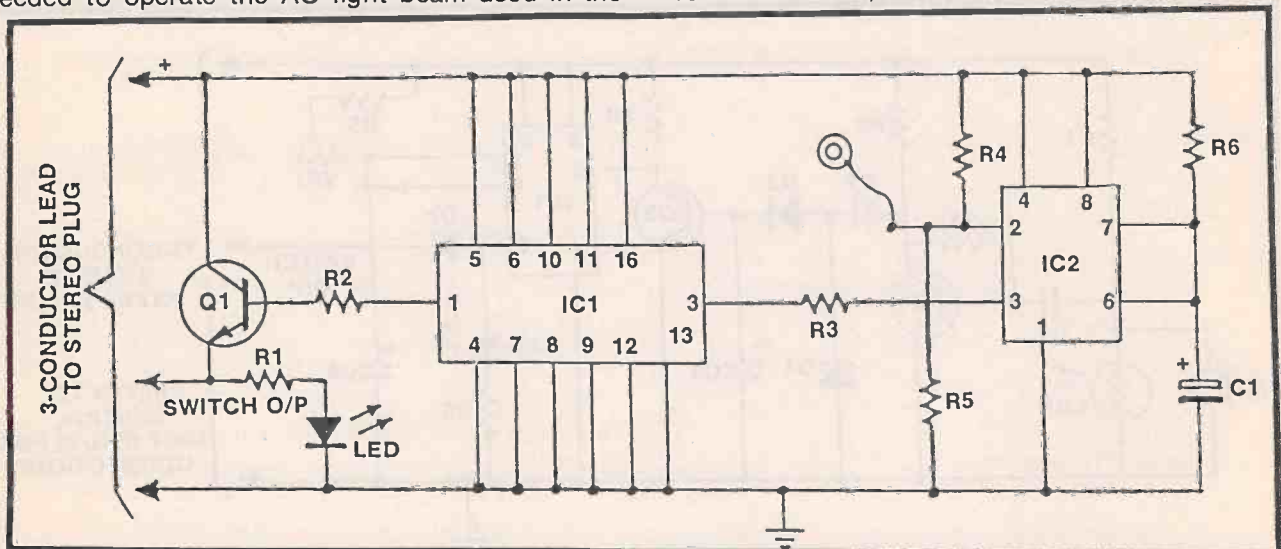
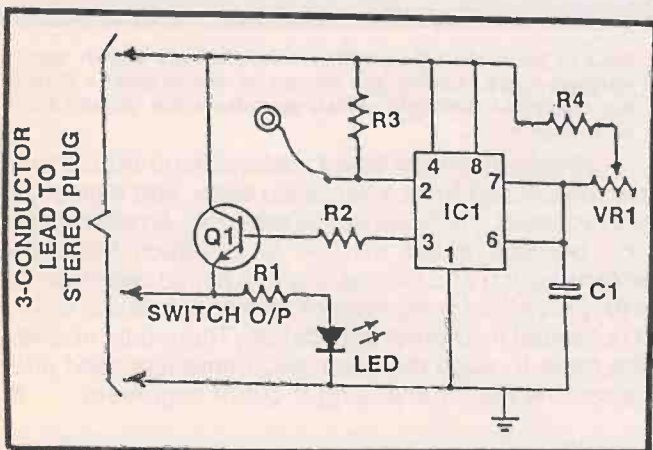

Figure 5. Touch-on/Touch-off switch
Figure 6. Touch/Timer switch
Figure 5 shows a Touch on/Touch off Switch. By briefly touching the metal lid of the box with any bare part of the body, the switch can be activated and deactivated. Figure 6 is also a touch switch but it initiates a time period when the lid is briefly touched.
- Misc.—Similar to Fig. 5 parts list.
Touch on/Touch off Switch - Figure 5
Touch/Timer Switch - Figure 6
With SW2 closed, the user can initiate the time period by briefly turning the wrist one way, then the other. In fact, once the timing starts, subsequent movement of the wrist has no effect on it but it can be aborted if SW2 is opened. This may prove difficult though if the user is disabled. Variable time periods were not provided for in the proto-type but can easily be installed, similar to the circuitry shown in Figure 6.